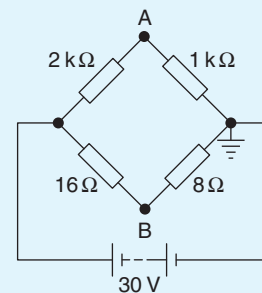

Figure 5.53
3. In the bridge circuit of Fig. 5.53 calculate (a) the absolute voltages at points A and B and (b) the voltage at A relative to B.